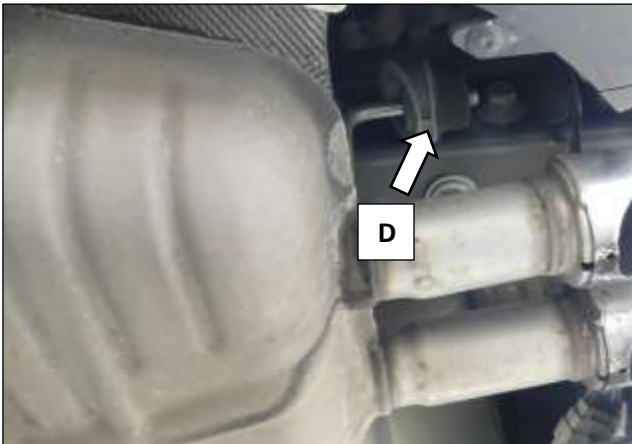

Figure 2
1. Remove the M8 bolt attaching the left and right muffler hanger to the frame rail just above the tips. **Fig.2 (D)**. Do not unhook the hanger assembly from the frame rail.